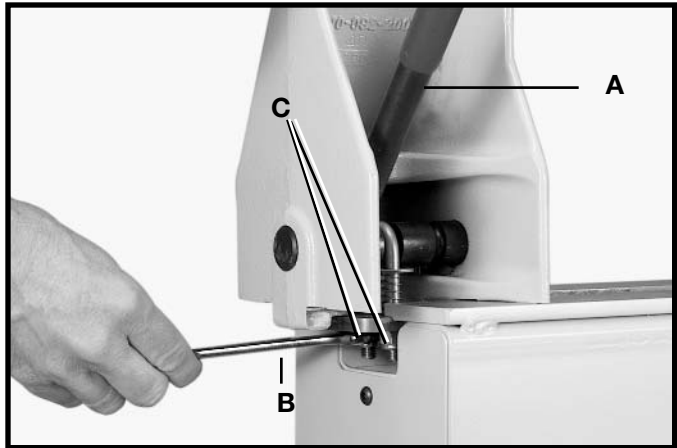

Fig. 15
The headstock and tailstock can be moved along the lathe bed. A downward push on the handle (A) Fig. 15 (tailstock shown) locks the mechanism, while an upward movement of the handle releases the securing action. The clamps are pre-set at the factory. However, should either need adjusting, use a $11/16$ " wrench (B) Fig. 15 to slightly loosen or tighten the two nuts (C) Fig. 15 shown here on the tailstock. **NOTE:** Be certain that both nuts are tightened, or loosened, equally. **NOTE:** Clamp headstock and tailstock firmly while operating the lathe.